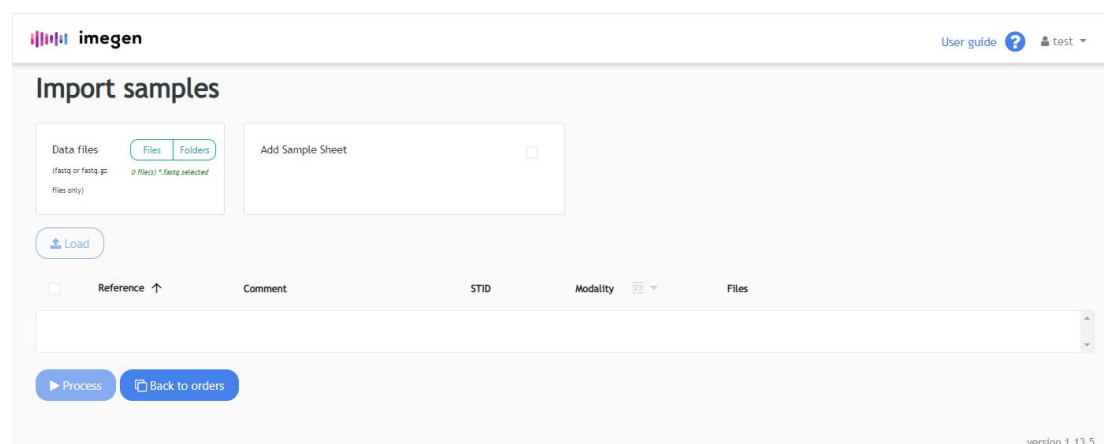

Figure 29. Screen for importing the fastq files and the sample sheet and commence the analysis request
- 02 Select the "Import Samples" on the main screen (Orders tab) to begin the analysis of the sequenced samples. This will take you to the file import screen (Figure 29). On this screen, the two fastq files associated with each sample must be imported. Optionally, the SampleSheet file could be used as well; this file allows simultaneously importing all files from the same sequencing run.